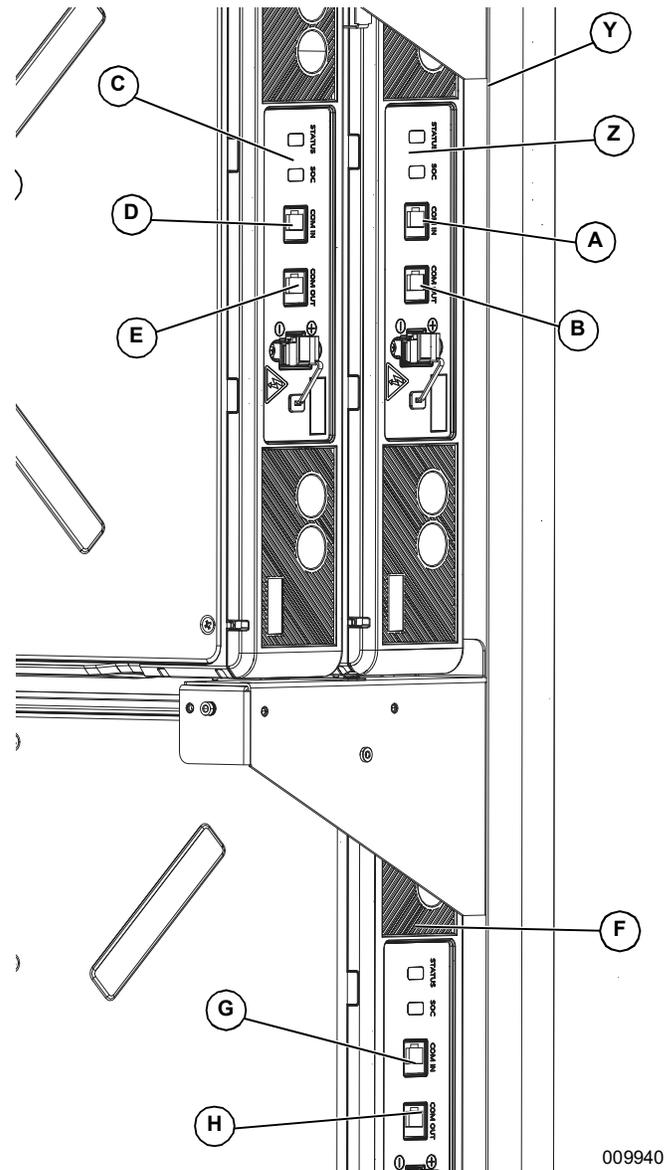

Figure 4-25. Module COM Cabling (1 of 2)
1. See Figure 4-25. Locate multicolored CAT5 cables attached to battery power cable harness on body (Y) and top, rear battery module (Z).
2. Connect Gray CAT5 cable to battery module COM IN (A)
3. Connect Black CAT5 jumper to battery module COM OUT (B).